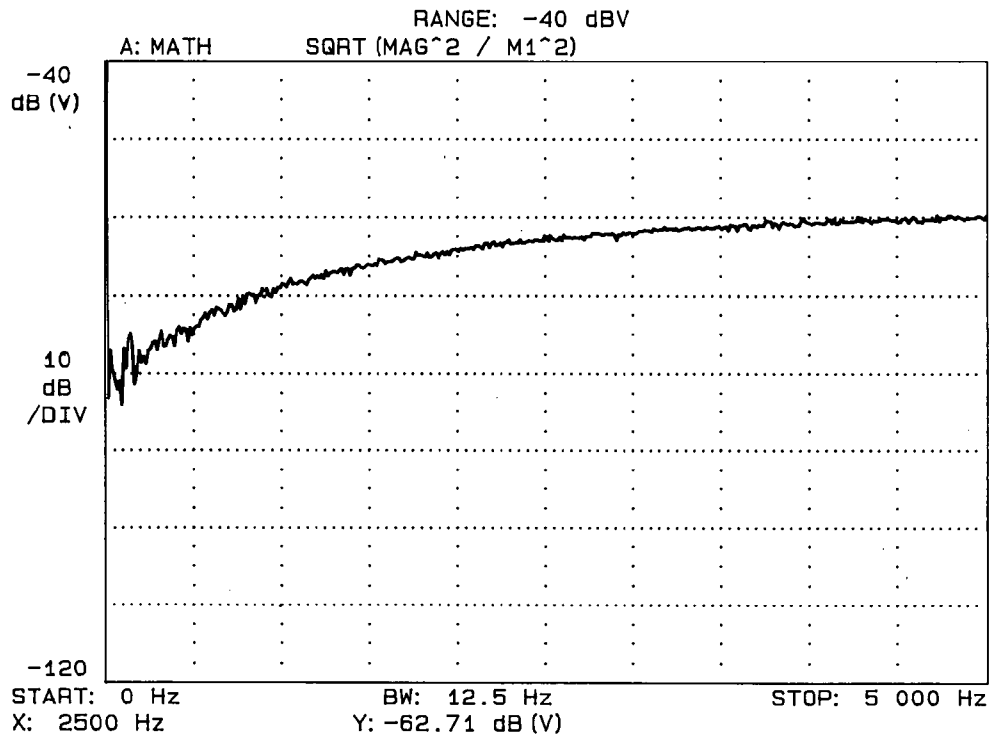

Figure 15. Typical Ground Isolation Adjustment
11. Adjust A3R132 as instructed. Refer to Figure 15 which shows a typical result after adjustment.